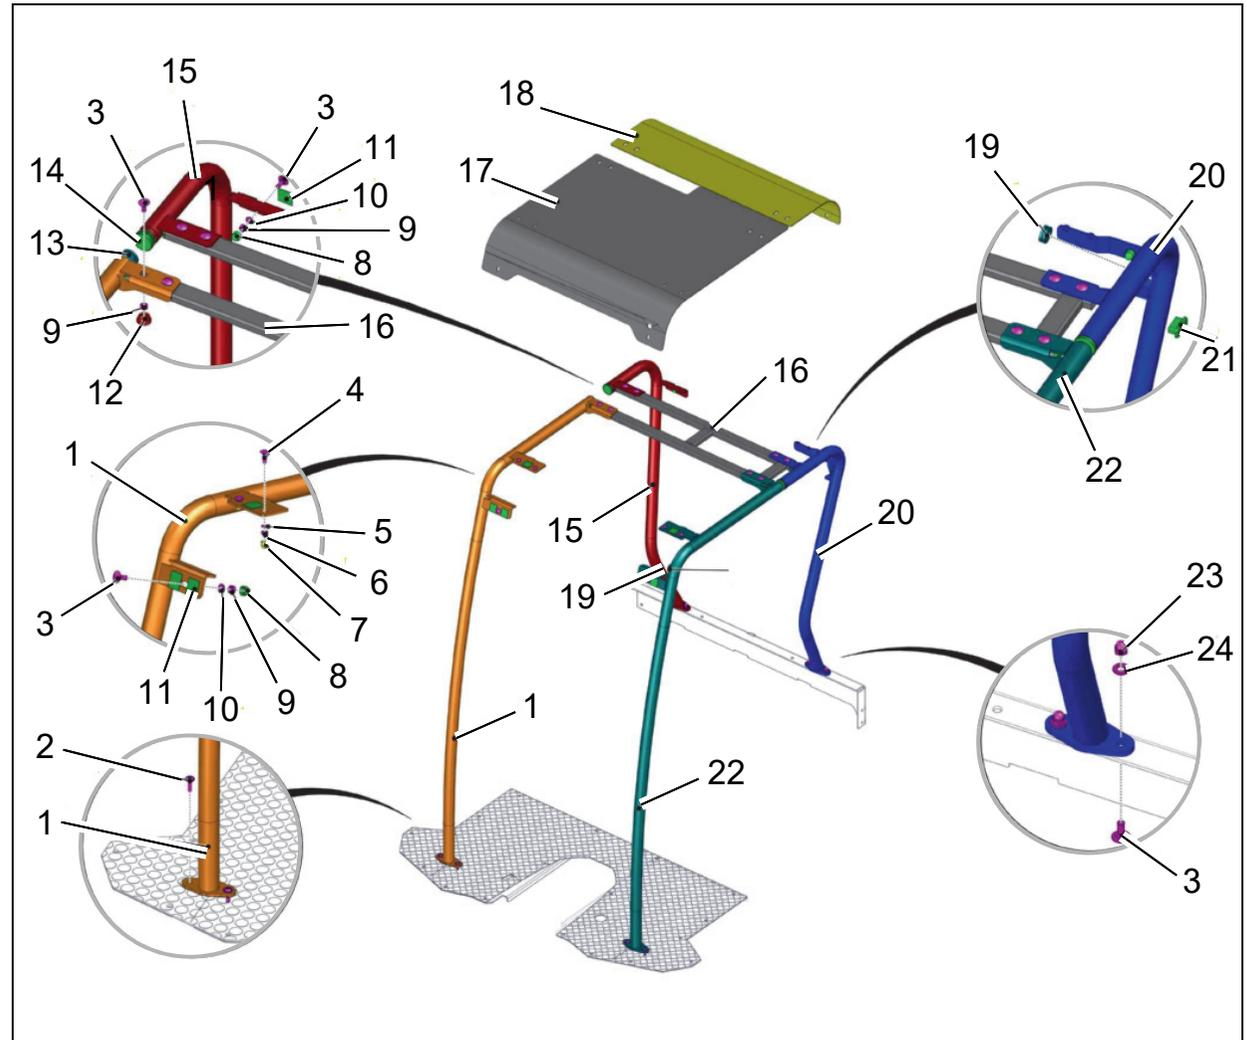
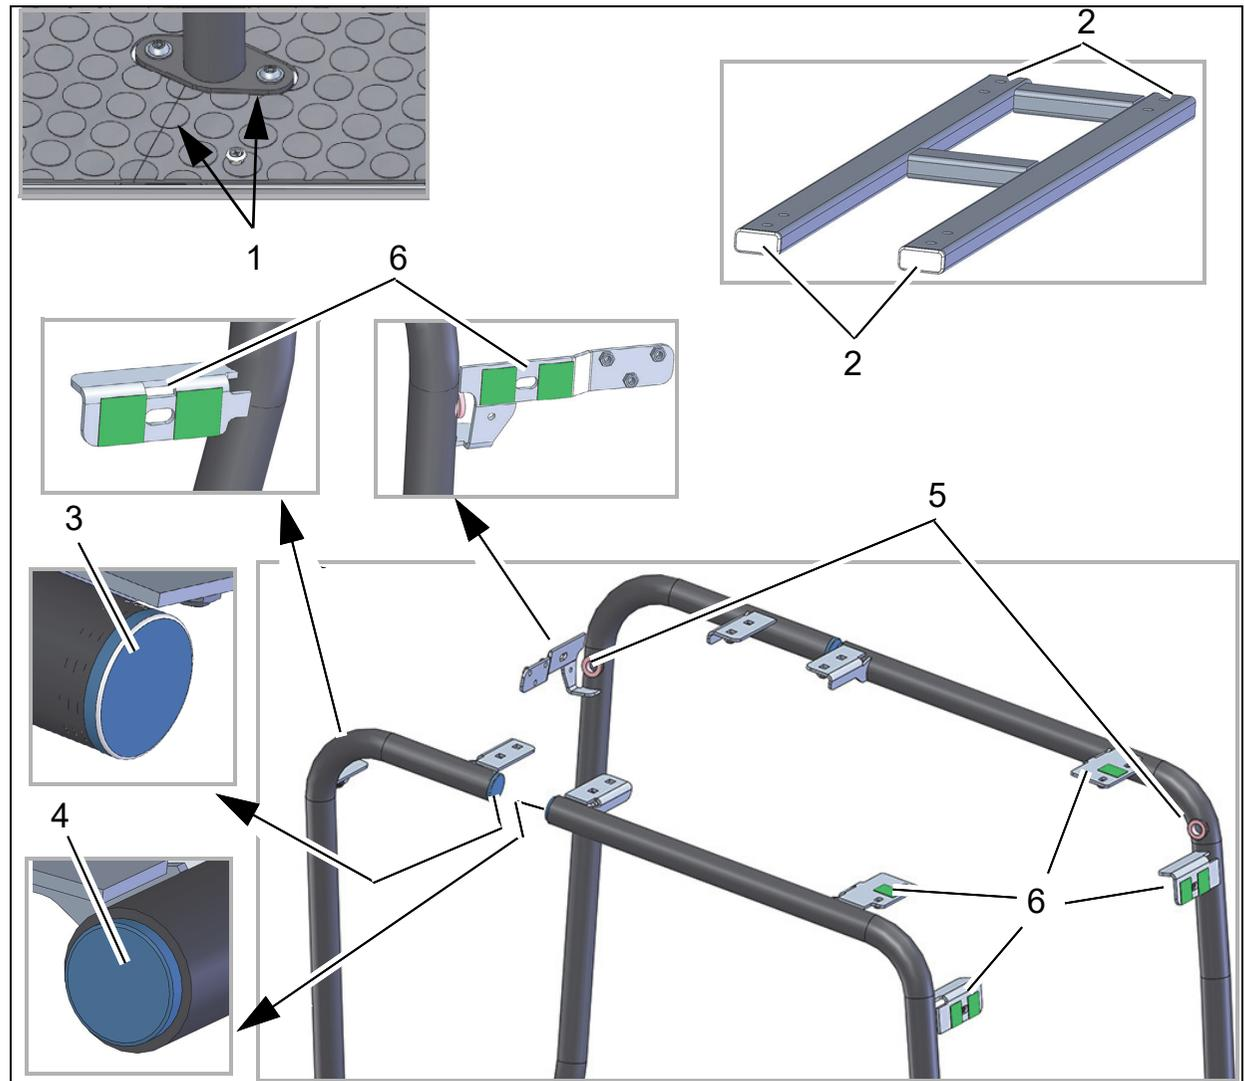
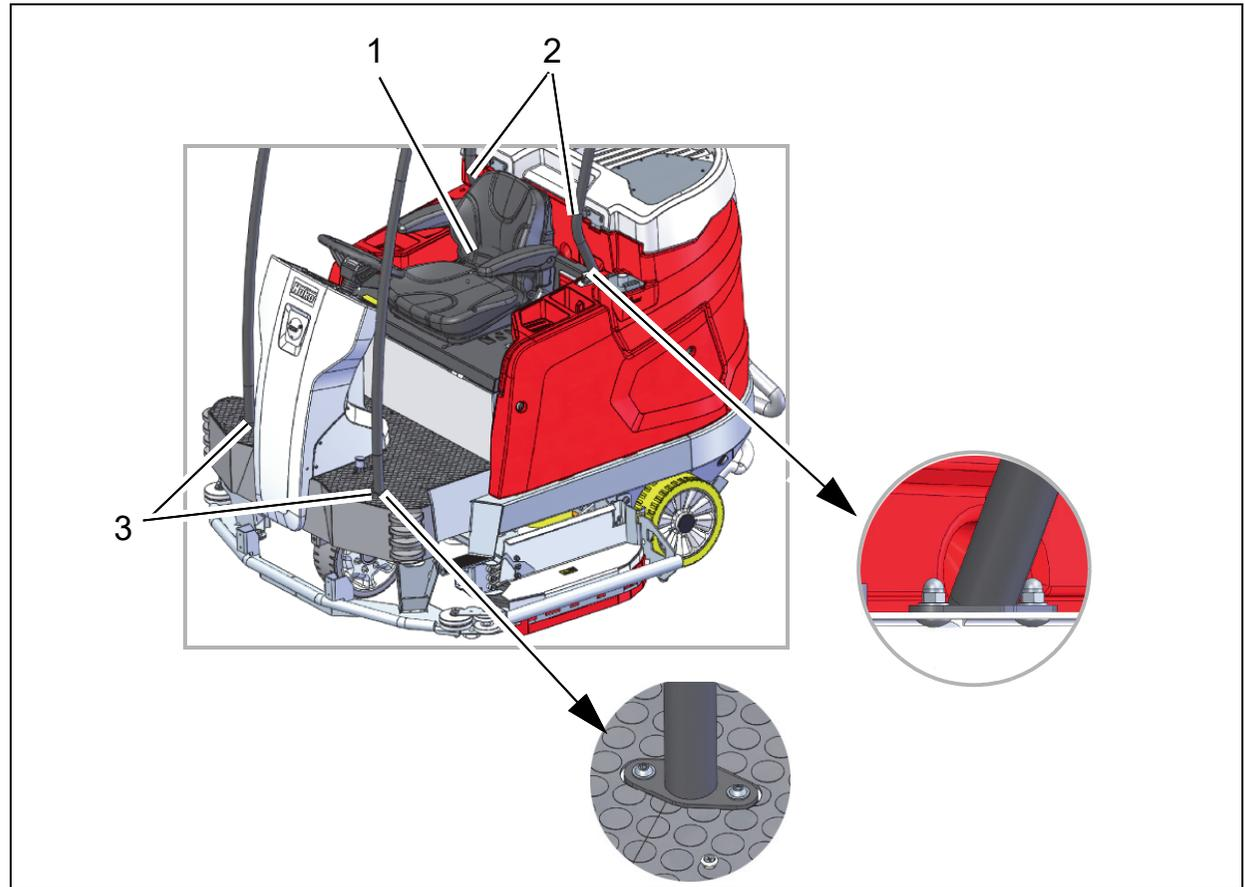
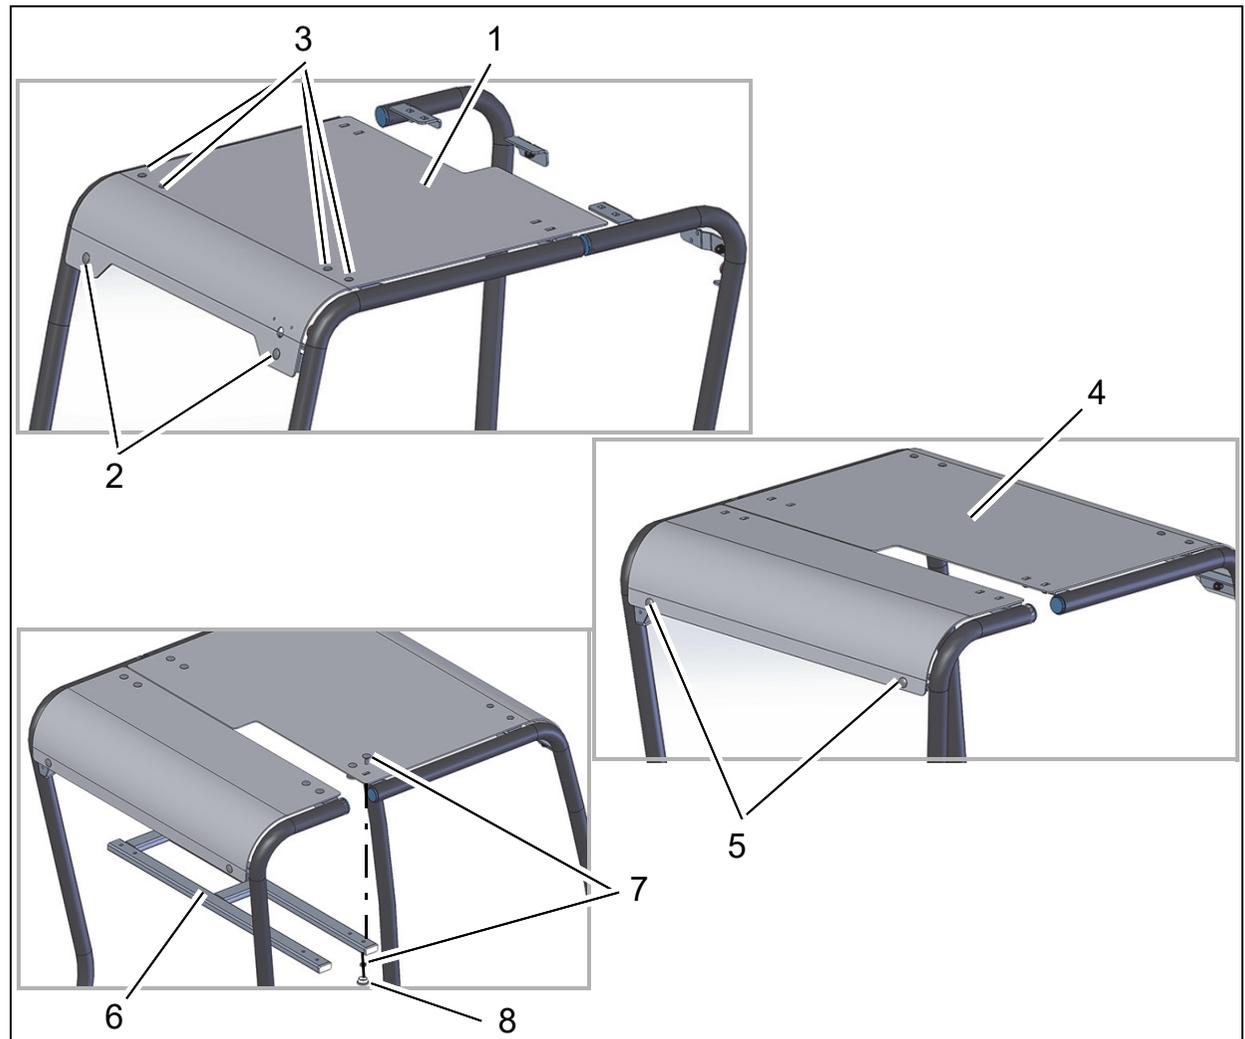

Fig. 1
Fig. 2
Fig. 3
Fig. 4
1. Cut open the floor mat (Fig. 2/1) along the perforation on both sides. Remove the section for the front bars.
2. Insert the four sealing plugs (Fig. 1/21) into the open ends of the frame (Fig. 2/2).
3. Insert the two sealing plugs (Fig. 1/14) into the open ends of the two rear bars (Fig. 2/3).
4. Insert the two sealing plugs (Fig. 1/13) into the open ends of the two front bars (Fig. 2/4).
5. Install the cable sleeves (Fig. 2/5).
Affix the 10 sealing strips (shown in green) to the surfaces according to Fig. 2/6.
1. Fold forward the seat console (Fig. 3/1).
2. Attach the two rear bars (Fig. 3/2) to the L-shaped profile behind the seat using the round-head bolts, detent-edged washers and cap nuts (see Fig. 1).
3. Attach the front bars (Fig. 3/3) to the floor using the M8x25 flanged button head bolts. Secure the bolts with 28990083 Loctite type 234.
1. Position the large roof (Fig. 4/1) on the front bars, align and then initially attach it using only the two M8x20 round-head bolts and the other standard parts (see Fig. 1) (Fig. 4/2).
2. Attach the roof to the front bars using the four M6x20 round-head bolts and the other standard parts (Fig. 4/3). Tightening torque: 3.8 Nm.
3. Position the rear roof (Fig. 4/1) on the rear bars, align and then attach it using the two M8x20 round-head bolts and the other standard parts (see Fig. 1) (Fig. 4/5)
1. Position the frame (Fig. 4/6) from below against the roof and use, for example, screw clamps to fix it in place (protect the paintwork against scratches).
2. Attach the frame using the eight M8x20 round-head bolts and nuts (Fig. 4/7).
3. Seal the holes in the frame with sealing plugs (Fig. 4/8).